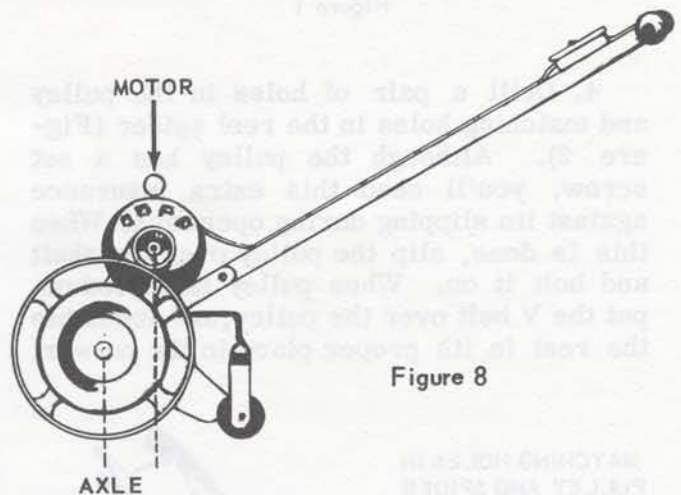

Figure 8
1. Set the motor on the mounting board. Make sure its pulley is in line with the pulley on the reel. Also it is suggested that the motor set just behind the mower's axle line for better balance (Figure 8).